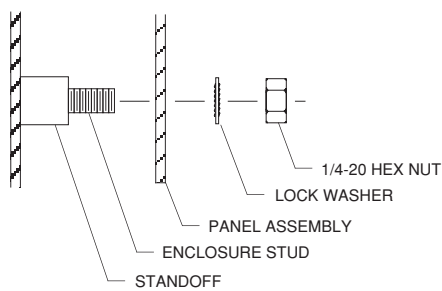

Figure 1. Panel Installation
5. Install the Panel Assembly into the enclosure and secure to the studs on the rear of the enclosure with the Panel Hardware Kit items as shown in Figure 1 below.